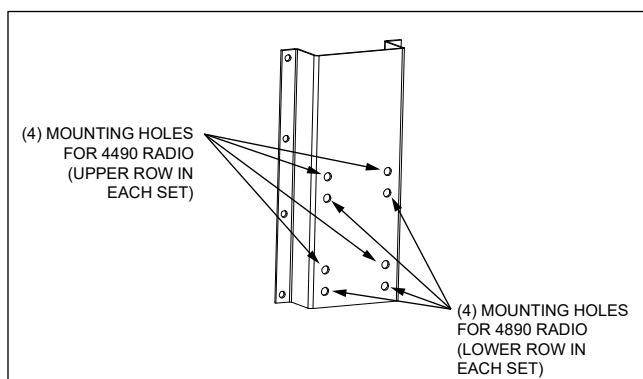
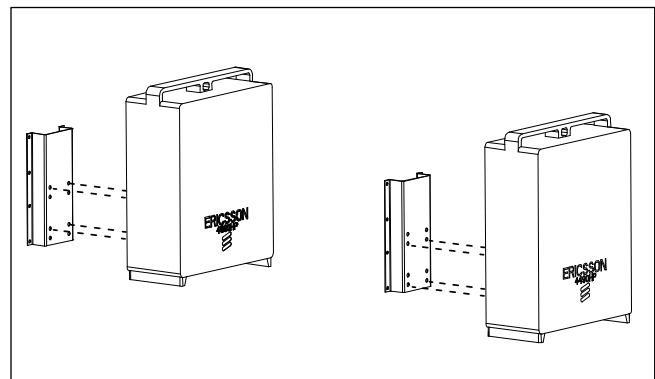

Figure 6 Radio Mounting Brackets
Figure 7 Attach Radios to Brackets
1. Locate the two radio brackets. Each bracket has two sets of mounting holes. The upper row in each set is used for the Ericsson 4490 radio. The lower row in each set is for the Ericsson 4890 (Figure 6). Attach the radios to the radio brackets using customer supplied hardware (Figure 7).